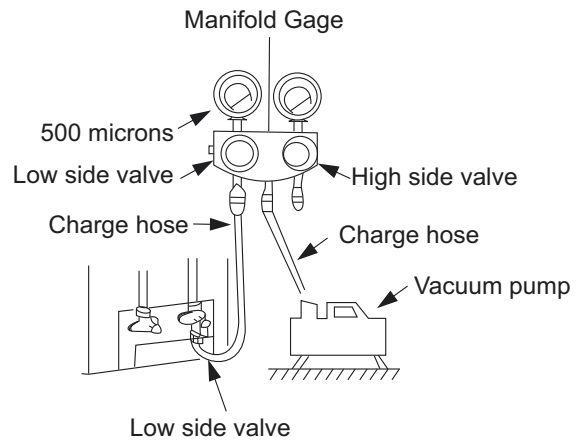

Fig. 41 - Manifold
3. Fully open the low side of manifold gage. (See Fig. 41)